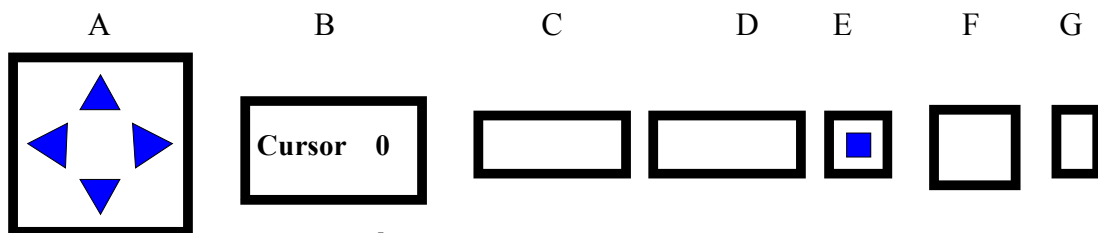

Figure B3: Cursor Icons
- A special series of boxes will appear on the upper right of the screen as shown in Fig. B3.